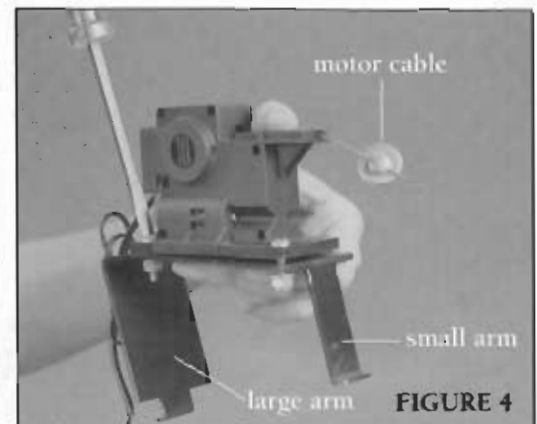

FIGURE 4
5. Use the 3/8" wrench and the Phillips screwdriver to tighten the nuts (Figure 4).